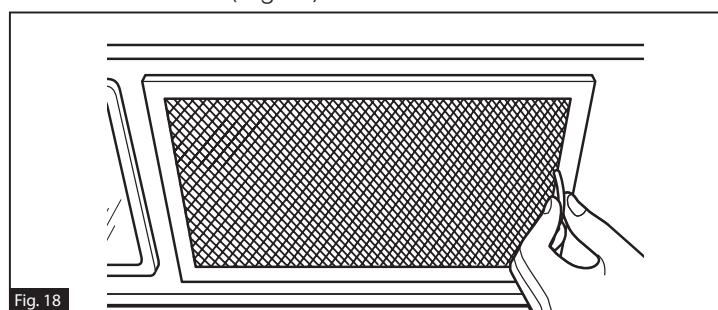

Fig. 18
5. Install the grease filters. See the User Manual packed with the microwave. (Fig. 18)